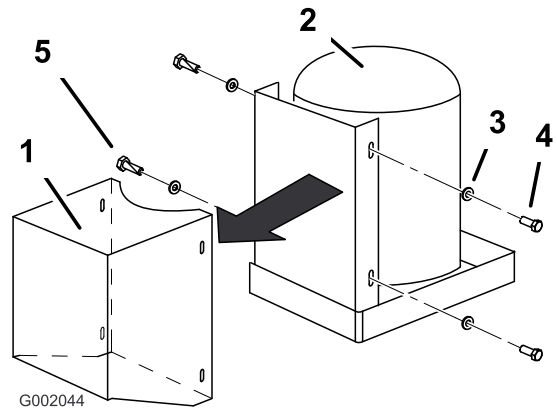

Figure 5
1. Remove 4 bolts (1/4 x 1 inch) and flat washers that hold the cover to the tank/compressor assembly (Figure 5).